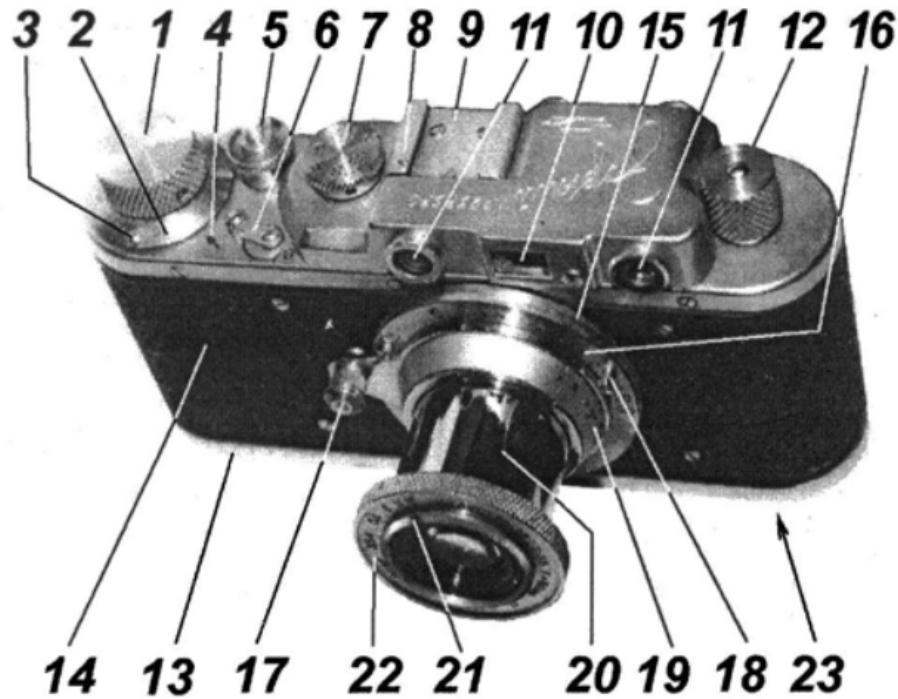

Fig. 1
(fig. 1).
5. Replace the baseplate 13 (fig 1), press it and twist the lock key 23 clockwise by half a turn. The arrow on the key will now point to «ЗАКРЫТО» = "closed". Check that the baseplate is properly closed.
exposures. Check if film has been properly loaded—when correct, the rewind knob 12 (fig 1) should turn.
transport sprocket where it is in contact with it. Film movement will be stopped as the sprocket teeth will just rotate where the film perforations are torn. This error is easy to detect by the absence of any movement in the film rewind knob 12 (fig 1) and by the rustle associated with moving film.
1. Press the shutter release button 5 (fig 1). Cap the lens.
3. Pull out the rewind knob 12 (fig 1) and turn it to the direction of the engraved arrow. Rewinding is at its end when a slight resistance (from film being yanked out of the takeup spool) is felt and when the shutter release button 5 stops rotating.